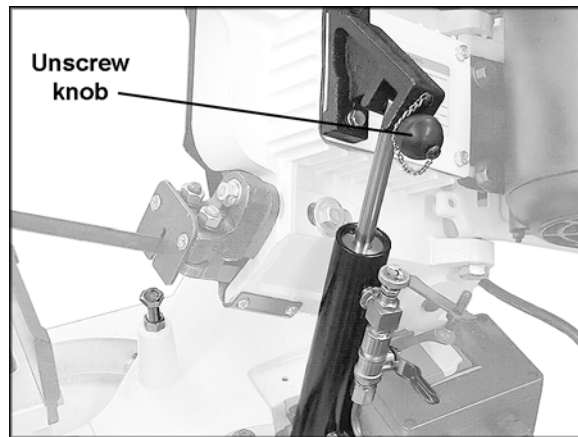

Figure 22
1. The band saw can be placed in vertical position to facilitate blade changes, maintenance, etc. Unscrew the knob (Figure 22) and slide it out to disengage the hydraulic cylinder.